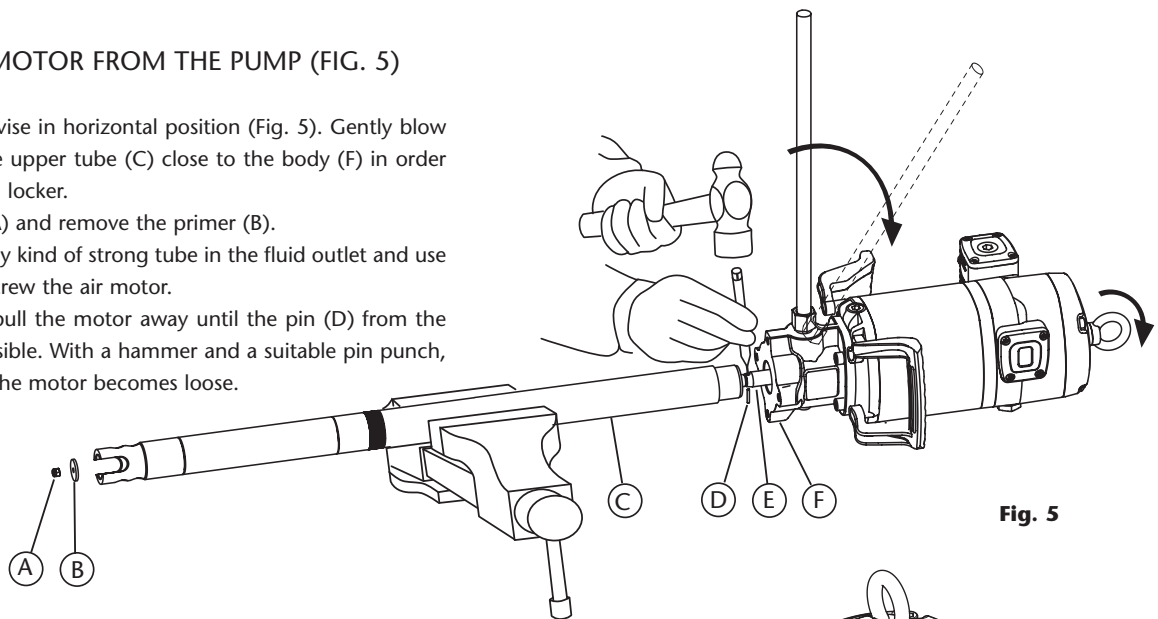

Fig. 5
SEPARATE THE AIR MOTOR FROM THE PUMP (FIG. 5)
1. Fix the pump in a vise in horizontal position (Fig. 5). Gently blow with a hammer the upper tube (C) close to the body (F) in order to break the thread locker.
2. Unscrew the nut (A) and remove the primer (B).
4. Once unscrewed, pull the motor away until the pin (D) from the rod (E) becomes visible. With a hammer and a suitable pin punch, eject the pin (D). The motor becomes loose.